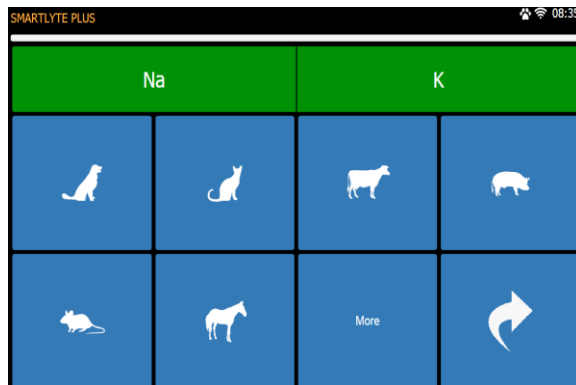
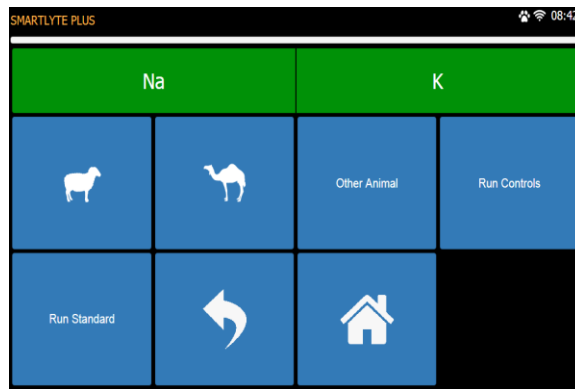

Figure 8-14 Sample Measurement Menu 1
Figure 8-15 Sample Measurement Menu 2
- On the Main Sample Measurement Menu 1 or 2, Figure 8-14 and Figure 8-15, select the animal to be tested.